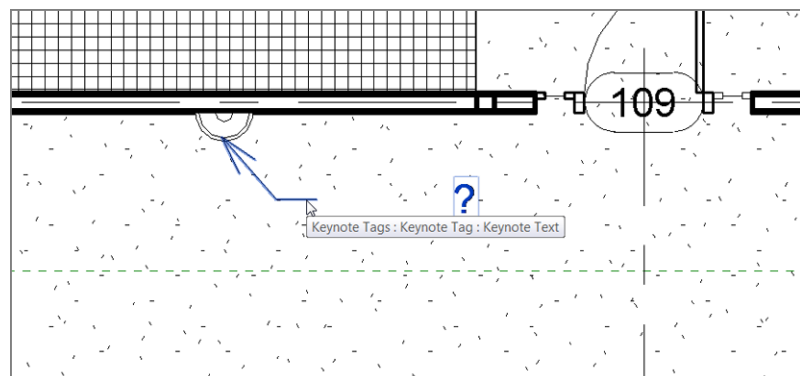

FIGURE 11.90: Placing the leadered keynote
5. Pick the wall sconce shown in Figure 11.90.
7. Pick a third point to place the keynote text (see Figure 11.90).